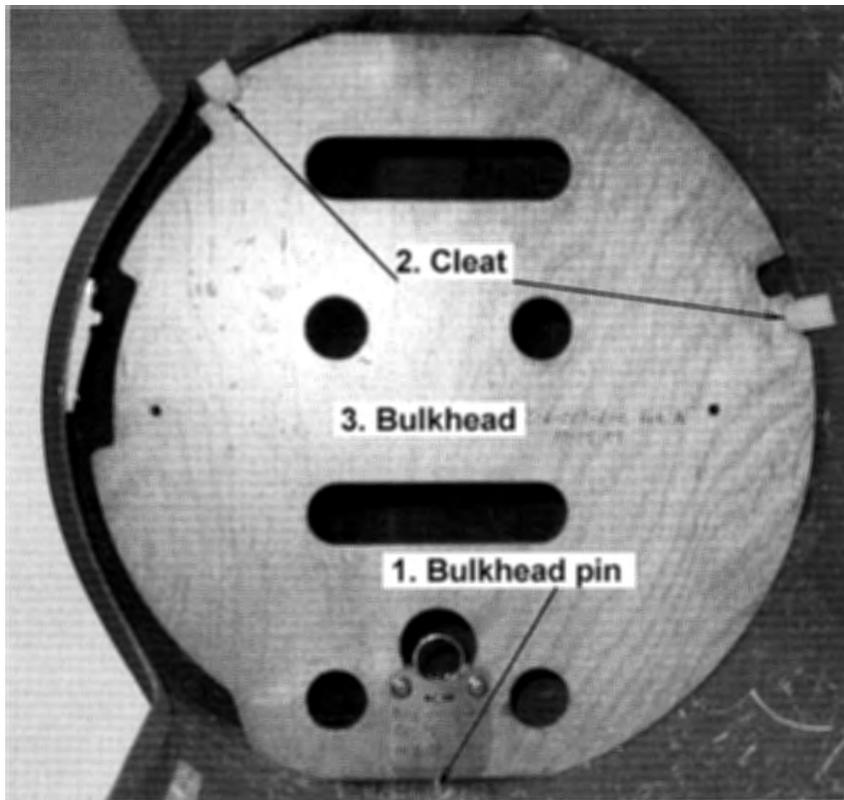

Figure 4 UWP bulkheads
| Figure 4 UWP bulkheads.....                           | 5 |
3. The purpose of the wooden bulkheads (Figure 4) is to prevent the load from shifting between the zones. The UWPs may be operated with the bulkheads removed whenever it is necessary to carry long items that straddle various zones. The forward bulkhead must be removed to gain access to zone 1. The bulkheads may be used to secure cargo. To remove a bulkhead:
- a. Release the bulkhead pin (item 1 Figure 4)
- b. Rotate the bulkhead so that it is free from the cleats (item 2 Figure 4)
- c. Remove bulkhead (item 3 Figure 4)
- a. Position the bulkhead (item 3 Figure 4) in the cleats (item 2 Figure 4)
- b. Rotate the bulkhead until the hole in the bottom of the pod aligns with the bulkhead pin (item 1 Figure 4)